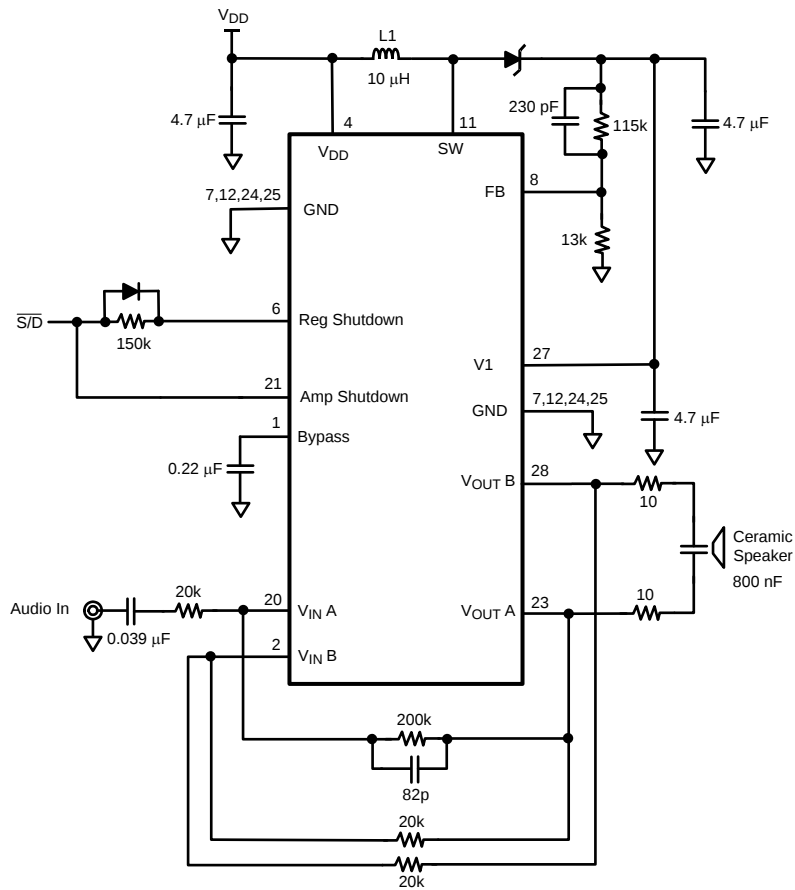

Figure 2. Typical Audio Amplifier Application Circuit
- (1) All voltages are measured with respect to the GND pin, unless otherwise specified.
- (2) Absolute Maximum Ratings indicate limits beyond which damage to the device may occur. Operating Ratings indicate conditions for which the device is functional, but do not ensure specific performance limits. Electrical Characteristics state DC and AC electrical specifications under particular test conditions which ensure specific performance limits. This assumes that the device is within the Operating Ratings. Specifications are not ensured for parameters where no limit is given, however, the typical value is a good indication of device performance.
- (3) If Military/Aerospace specified devices are required, please contact the Texas Instruments Sales Office/ Distributors for availability and specifications.
- (4) The maximum power dissipation must be derated at elevated temperatures and is dictated by T_{JMAX}, θ_{JA} , and the ambient temperature, T_A. The maximum allowable power dissipation is P_{DMAX} = (T_{JMAX} – T_A) / θ_{JA} or the given in Absolute Maximum Ratings, whichever is lower. For the LM4960 typical application (shown in Figure 2) with V_{DD} = 12V, R_L = 4 Ω stereo operation the total power dissipation is 3.65W. θ_{JA} = 35°C/W.
- (5) Human body model, 100pF discharged through a 1.5k Ω resistor.
- (6) Machine Model, 220pF–240pF discharged through all pins.